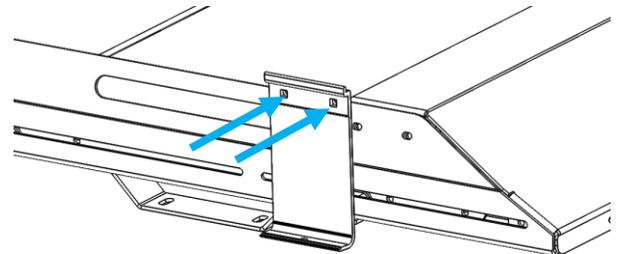

Figure 4: Manufacturer's Awning Bracket Installation
5. Attach the awning manufacturer's brackets to the modular roof rack brackets using the provided 1/4"-20 x 3/4" bolt, washer, and nut as shown in Figure 4.